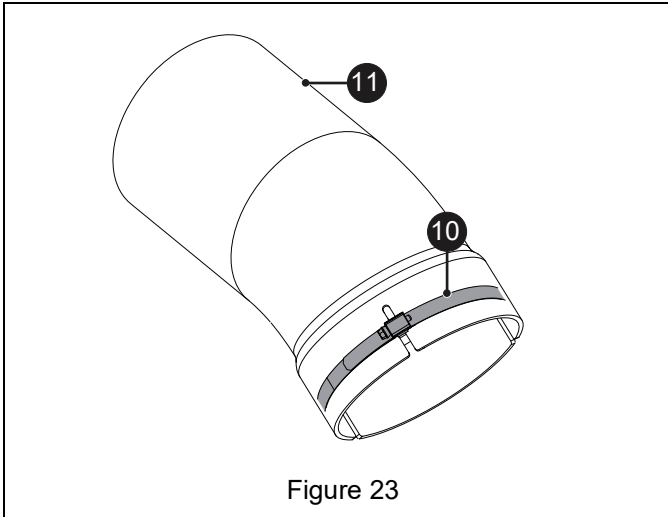

Figure 23
7. Install other clamping knob (item 3) securing cover to blower mounting bracket.
8. Attach bagger hose clamp (item 10) to slotted end of blower outlet adapter (item 11). See Figure 23.